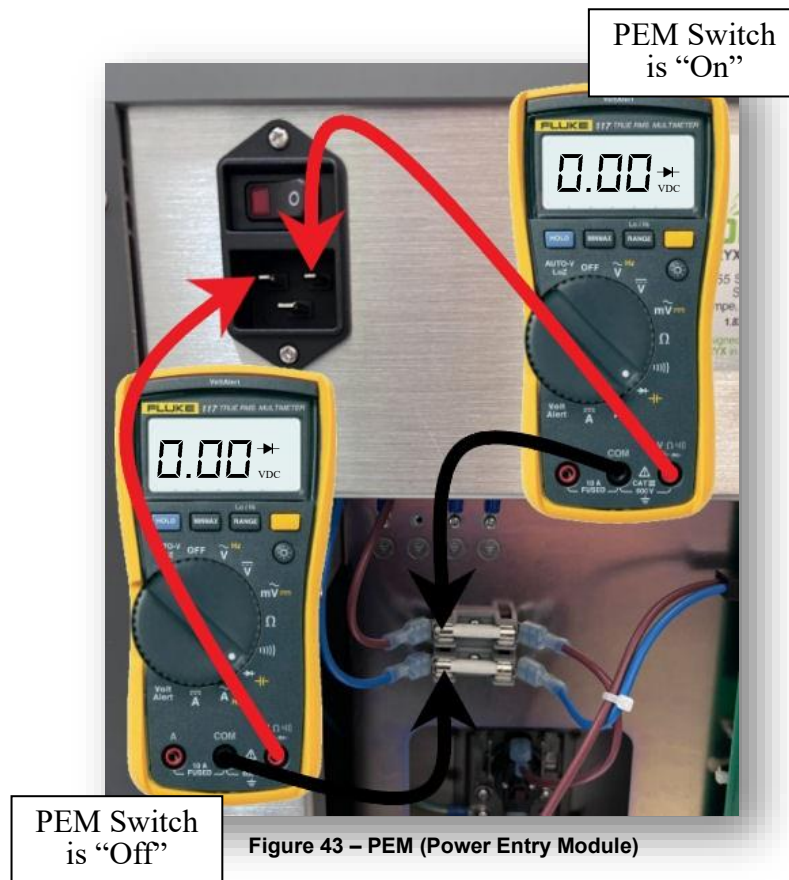

Figure 43 – PEM (Power Entry Module)
- b. With the PEM turned "On" (toggled to the left), touch one lead of the multimeter to the brown wire connected to fuse F1 and the other lead to the top right-hand prong of the PEM (**See Figure 43**).
- c. With the PEM turned "Off" (toggled to the right), touch one lead of the multimeter to the blue wire connected to fuse F2 and the other lead to the top left-hand prong of the PEM (**See Figure 43**).